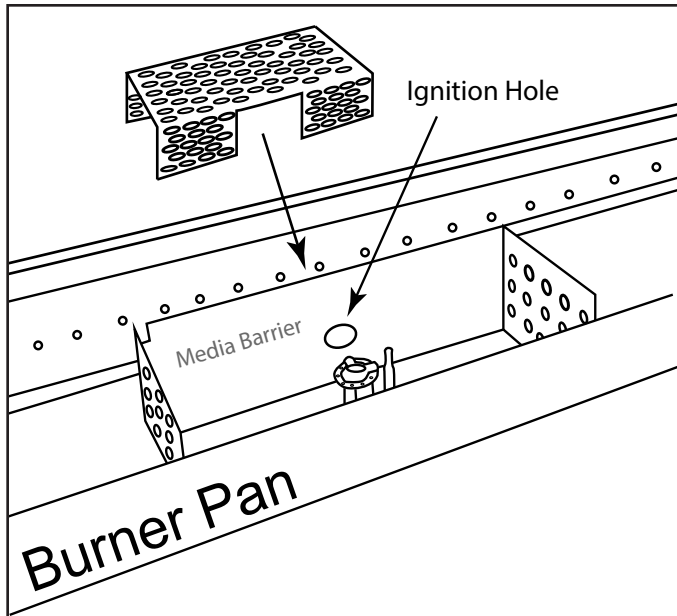

Fig. 30 Installing ignition screen.
Step 21: Install ignition screen (from parts box) overtop of the burner tube with the cutout area centered behind the pilot box ignition hole as shown in Fig. 30. The ignition screen sit on top of the burner tube.